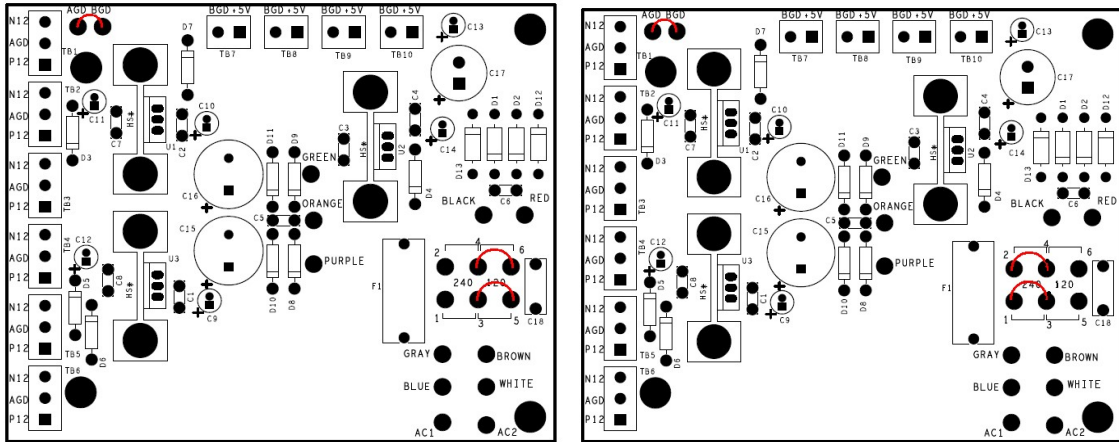

Figure 8-Jumper installation for 120 Volt Operation (left side) and 240 Volt (right side)
Jumper locations are shown in Figure 8.
- For 120 Volts, use the left half of Figure 8.
- For 240 Volts, use the right half of Figure 8.